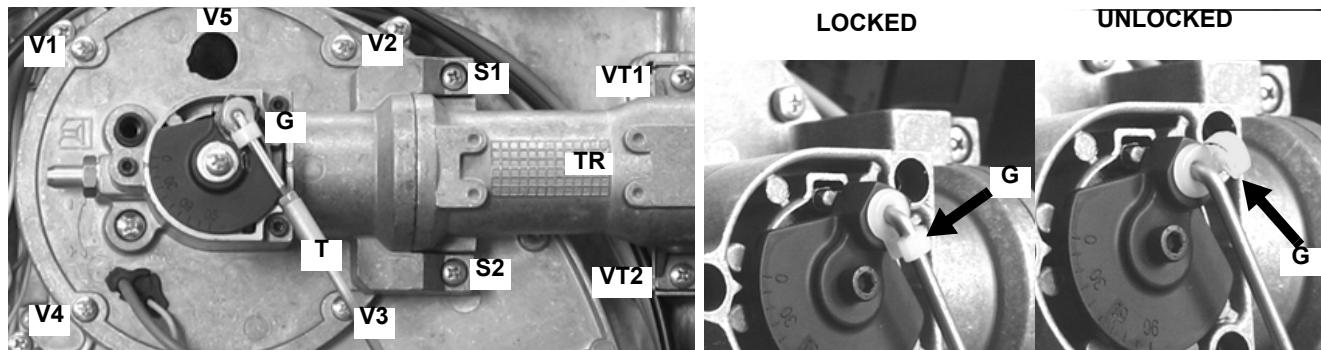

Fig. 13
- 1 Remove the plastic hook **G** to release the rod **T** (Fig. 13) .
- 2 Take the screws **V1, V2, V3, V4, V5, VT1** and **VT2** off (Fig. 13).